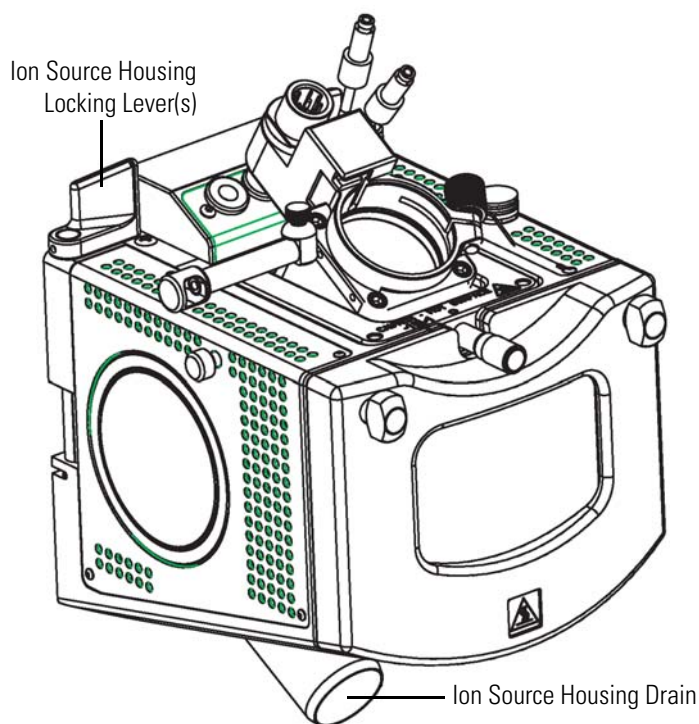

Figure 8-6. Ion Max API source housing, showing detail of components
3. Remove the drain tube from the ion source housing drain. See Figure 8-6.